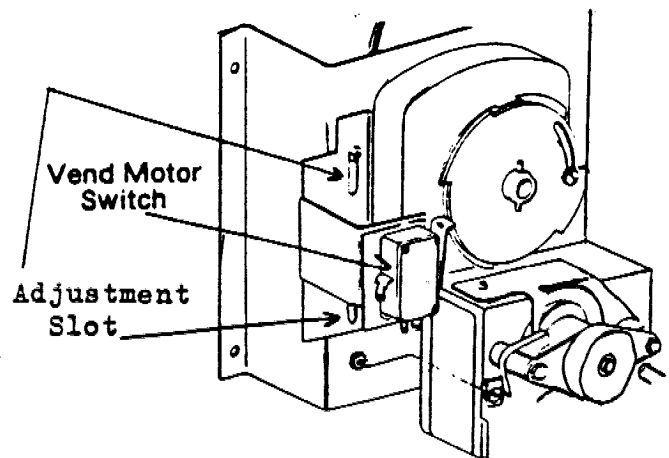

Fig. 4
6. If two (2) cans vend for one (1) coin insertion adjust Vend Motor switch bracket to mid position. (Fig. 4)